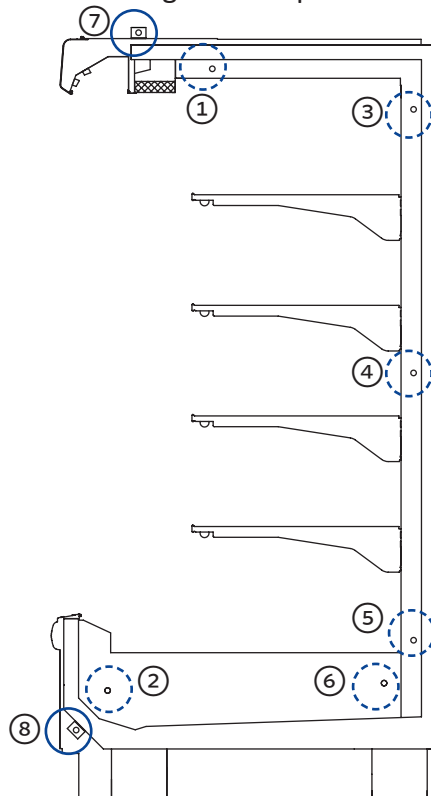

Fig 5. Bolting Location
- Push the cases tightly together, then lightly bolt them together through the holes that are provided. (Fig. 5)